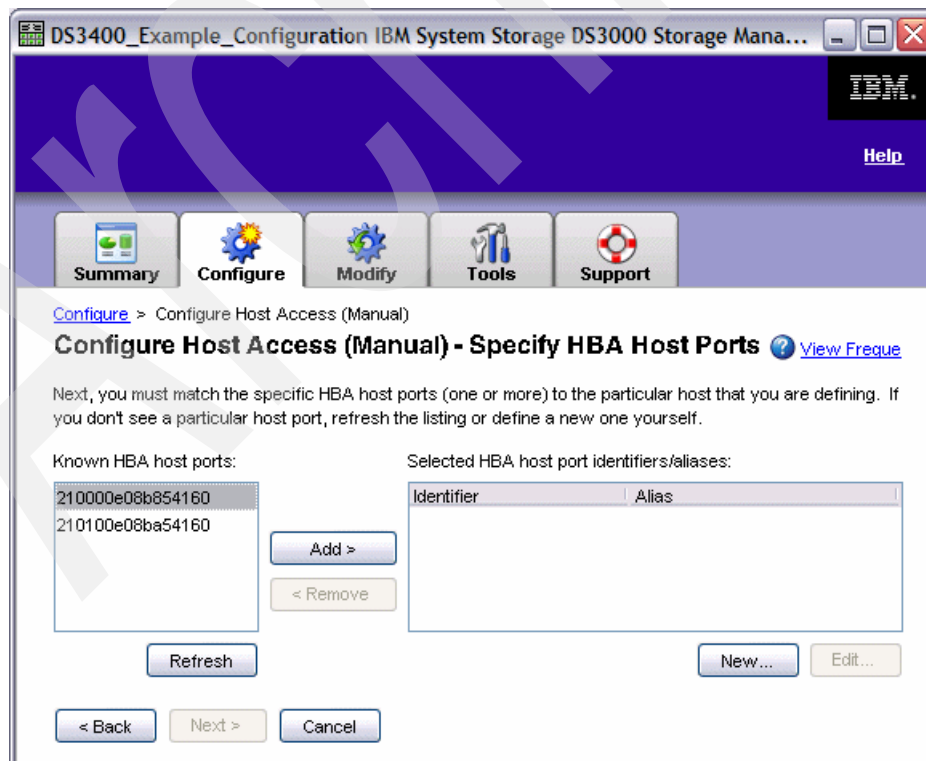

Figure 26-9 Specify HBA Host Port
3. Specify the HBA host ports. Remember, we have to specify the first HBA port only. Its WWN is 21:00:00:E0:8B:85:41.60. Select this WWN and click **Add**, as shown in Figure 26-9.